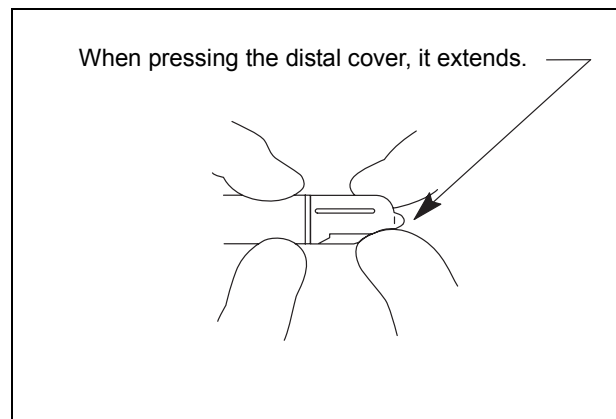

Figure 3.17
3. Push the distal cover straight onto the distal end of the endoscope until the bottom end of the distal cover contacts the end part of the white ring. Hold the bending section lightly close to the distal end and press the distal cover about 1 mm onto the distal end. When pressing the distal cover, it extends as shown in Figure 3.17.